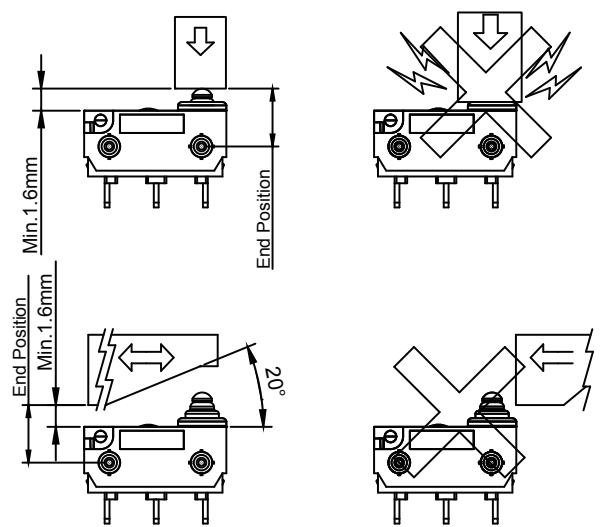

Figure-2
3. Do not exceed the end position (EP) and over travel (OT). This could cause operation failure. (Figure-2)